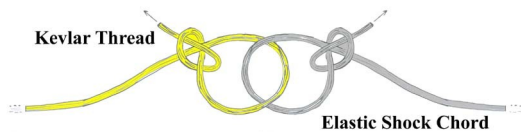

Figure 7
- **Step 41** Tie a slip knot with about a 1” loop at the free end of the Kevlar thread. Run the elastic shock chord through this loop, and tie a slip knot in the elastic as shown in Fig. 7 above, trapping the Kevlar loop. Pull both knots tightly against each other, then apply a drop of thinned glue to the two knots to secure them. Allow to dry.